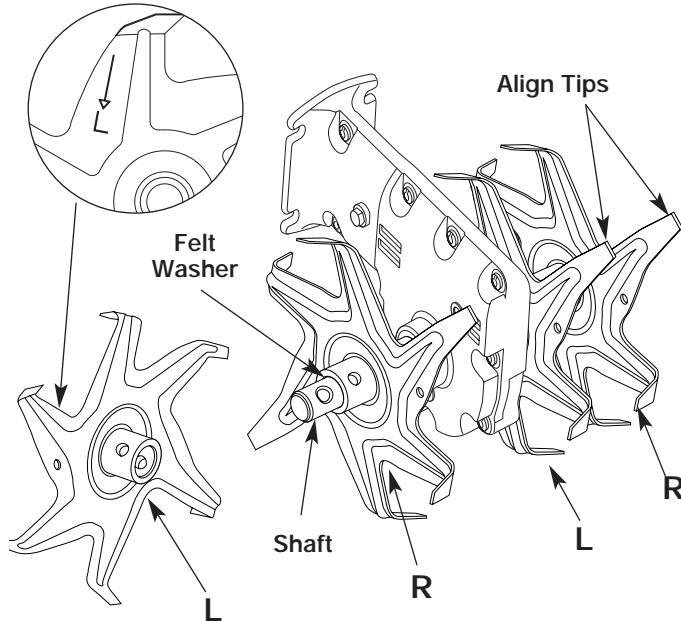

Figure 21
7. Ensure the tips on tines are aligned in the same direction with each other before reinstalling the clevis pins and pin clips. See Figure 21.